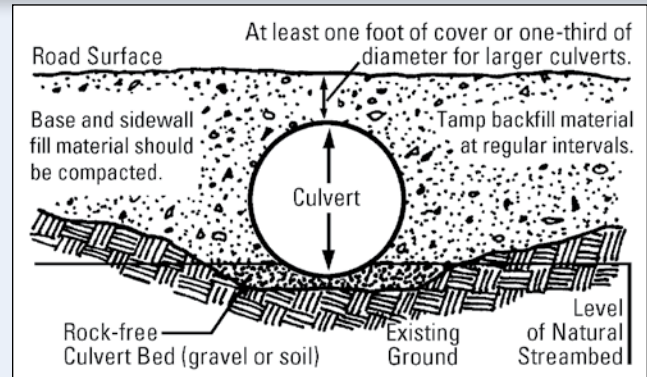

Figure 12-9: Installation of culverts. (Figure Credit: WDNR)
- ◆ Firmly compact material around culverts, particularly the bottom half. To prevent crushing, cover the top of culverts with fill to a depth of one-third of the culvert diameter or at least 12 inches, whichever is greater (see Figure 12-9).